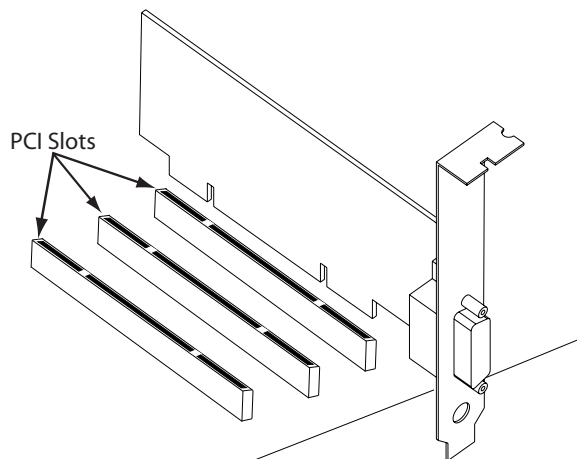

Figure 2.1: Installing the SST-64P PCI Adapter
Figure 2.1: Installing the SST-64P PCI Adapter	6
2. Locate an available Peripheral Component Interconnect (PCI) slot (see Figure 2.1).